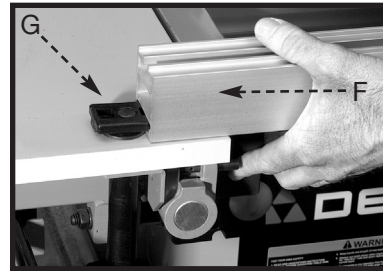
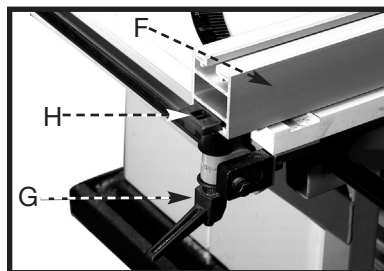

Fig. 43
Fig. 44
18. Attach fence (F) Fig. 43 to right fence clamp (G) and into left fence clamp (H) Fig. 44.
19. After the fence is attached to the sliding table, tighten the fence lock handle (G) Fig. 44 and lock knob (J) Fig. 47.